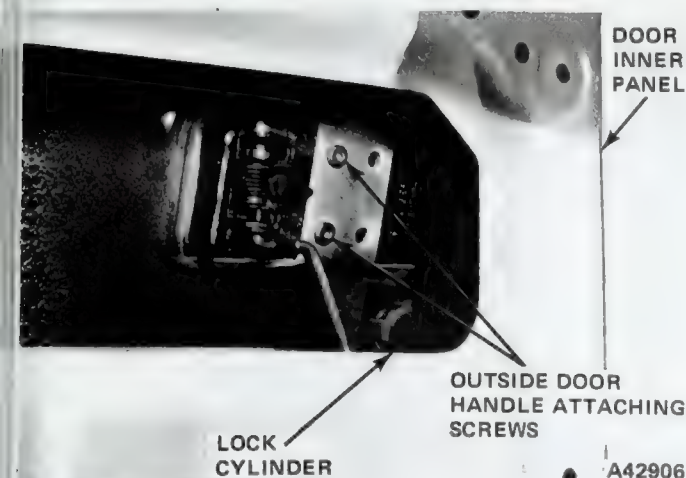

Fig. 3J-27 Outside Door Handle Replacement—Gremlin-Concord-AMX
- (1) Remove door trim panel.
- (2) Remove water dam paper.
- (3) Raise window to closed position.
- (4) Disconnect outside handle-to-door latch link at handle (fig. 3J-27).
- (5) Remove attaching screws from handle assembly using tool J-25359-02 and remove handle assembly.